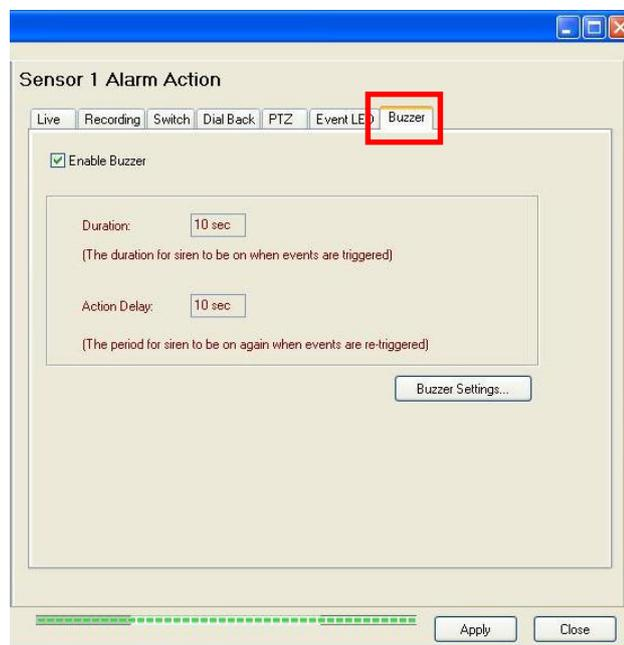

Fig 8.2.7a
Step 1 : In {(Event) Action} panel, click [Buzzer] option to set buzzer setting as **Fig 8.2.7a**.